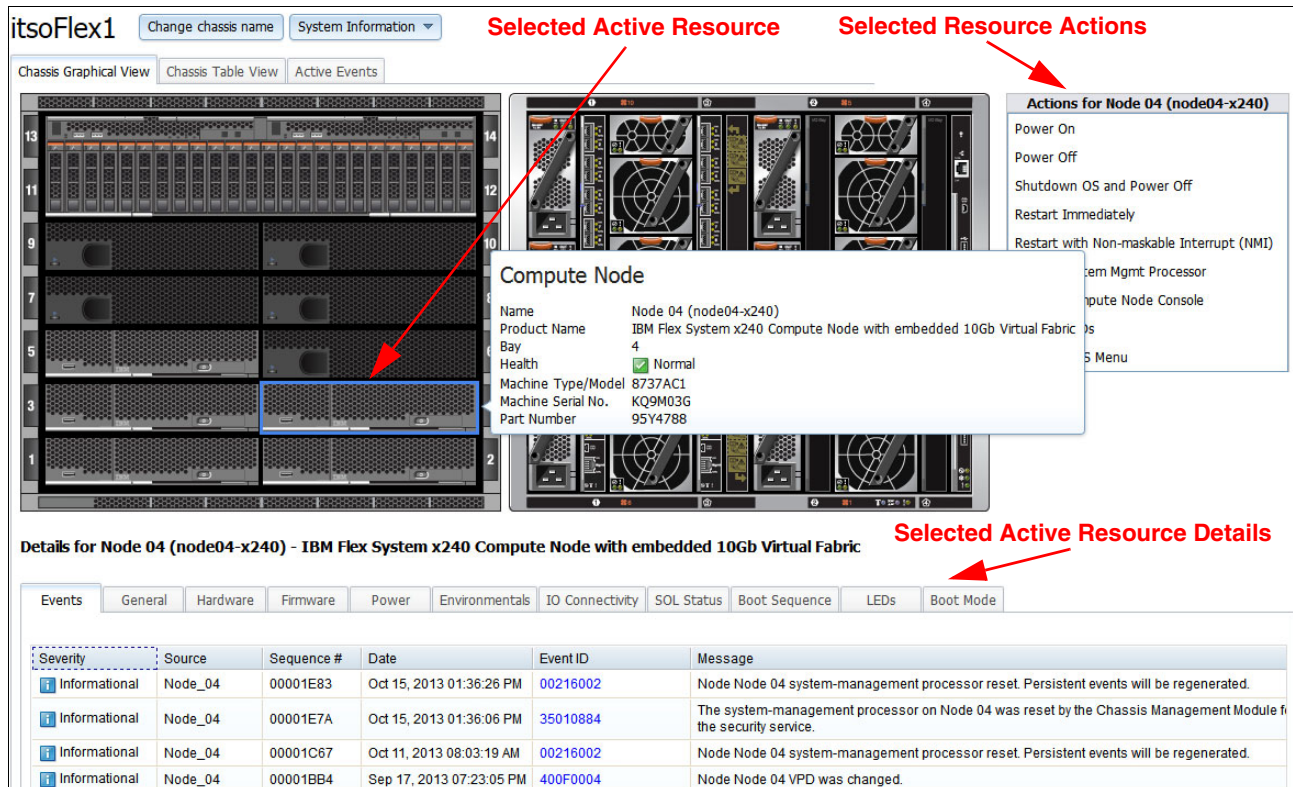

Figure 4-37 Chassis status
The System Status window is the default window when you enter the CMM web interface, as shown in Figure 4-37. You can also access it by clicking **System Status** on the menu bar.
The graphical view of the Chassis is active, so the changes are reflected immediately. The following selections are available (matching callouts in Figure 4-37):
1. **Selected Active Resource:** All major components of the Chassis can be clicked for more information. Select a component of interest (in Figure 4-37, the IBM Flex System p260 Compute Node), and a pop-up displays information about that component, such as serial number, name, or bay. You can power a component on or off from this window by right-clicking, or view other details about the component.